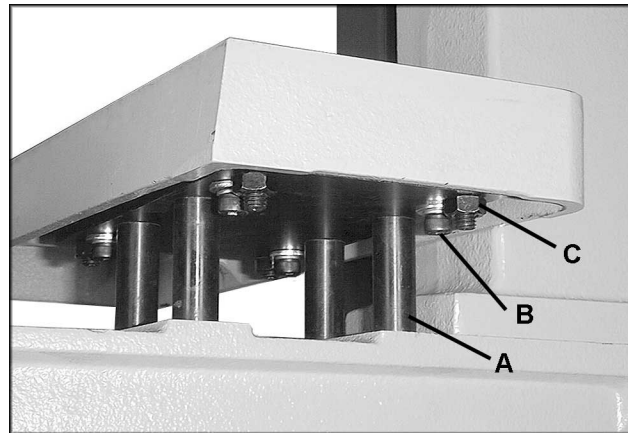
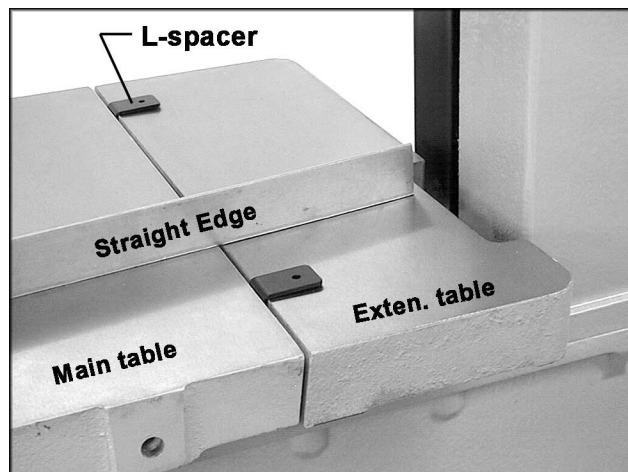

Fig. 9
Fig. 9a
16. Loosen lock knobs on the main table and tilt the main table out of the way. Mount the extension table (Fig. 9) with four M8 x 65 socket head cap screws through the spacers (A, Fig. 9). Insert four M6 x 25 socket head cap screws (B, Fig. 9) with flat washers and lock washers through the plate and into bottom of extension table. Insert four set screws (C, Fig. 9) with hex nuts into outer holes.
17. Tilt the main table back to level position. The extension table should be an appropriate distance from the main table to prevent interfering with the tilting of the main table. Loosen the four hex cap screws (B, Fig. 9) to adjust the gap between the extension table and the main table. This gap can be properly set by using the L-spacers (Fig. 9a). Place the L-spacers between the tables as shown, and push the extension table toward the main table as far as it will go. Tighten the hex cap screws (B, Fig. 9) and remove the L-spacers.
18. The extension table must also be leveled with the main table. Place a straight edge (Fig. 9a) across both tables. To raise or lower the height of the extension table, loosen the hex nuts and turn the set screws (C, Fig. 9). NOTE: Before leveling the extension table, the 90-degree stop of the main table should be checked and adjusted if necessary. See page 19.
19. When finished leveling the extension table, re-tighten hex nuts and set screws (C, Fig. 9).